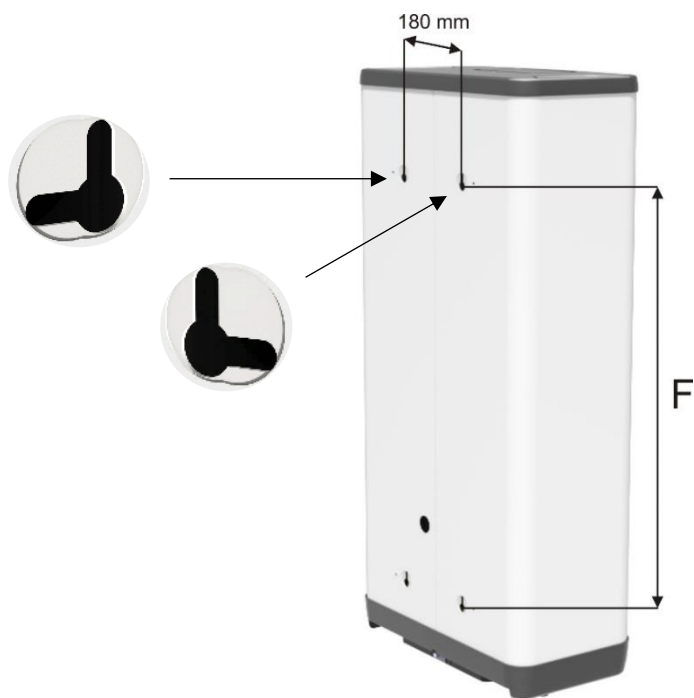
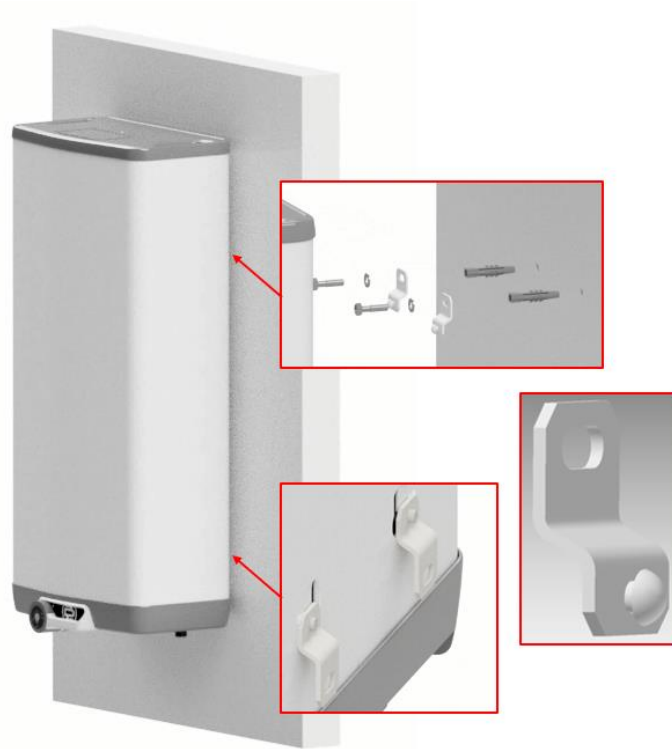

Figure 3
Figure 4
**Mount the water heater in vertical position.** The fixing wood screws must have guaranteed spacing  $t=180$  mm and spacing  $F$  according to the heater volume (Figure 3) or with hinges. 2 upper hinges are attached to the wall and 2 lower hinges are fitted into the bottom holes on the heater, the lower hinges serve as abutment (Figure 4). **Hinges (4 pcs) are included in package.**